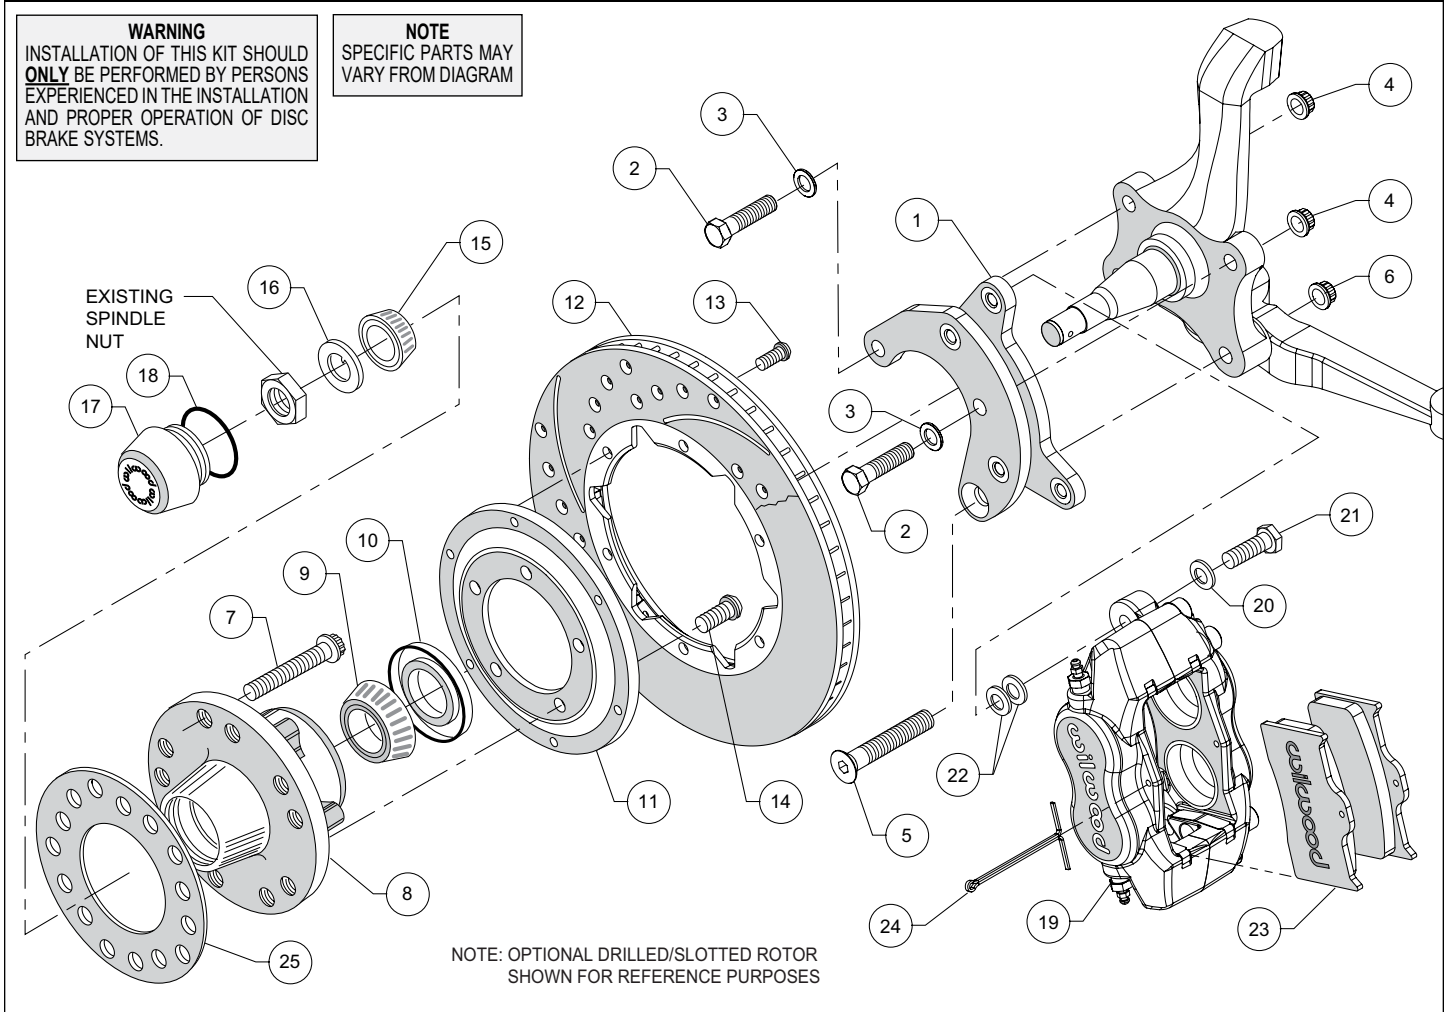
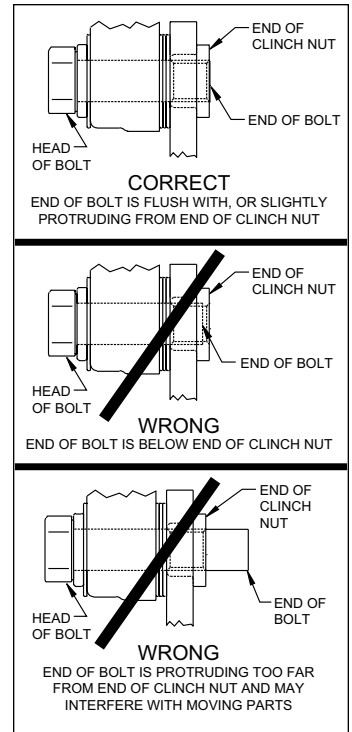

Figure 1. Typical Installation Configuration
Figure 4. Clinch Nut Engagement Diagram
- NOTE:** Numbers in parenthesis refer to the parts list on the preceding page and Figure 1.
- CAUTION:** All mounting bolts must fully engage clinch nuts. Be sure to check that all bolts are either flush or protruding through flanged side of clinch nut after shimming, Figure 4.
- Align bracket with the corresponding holes on the face of the spindle, attach using bolts (2/5), washers (3), and secure using nuts (4/6) as shown in Figure 1 and Photo 1. Temporarily tighten the mounting bolts. Ensure that the flanged heads of the clinch nuts in the bracket are facing outboard, Photo 1. **NOTE:** The bracket must fit squarely against the mounting points on the spindle. Inspect for interference from casting irregularities, machining ridges, burrs, etc. Torque lock nut (4) to 47 ft-lbs. and lock nut (6) to 65 ft-lbs.
- Install wheel studs (7) into the hub (8), Photo 2. Torque to 77 ft-lb. **NOTE:** There are two five lug patterns in the hub (5 x 4.50 and 5 x 4.75). Ensure the correct hub stud pattern is being used to fit the wheel application.
- Pack the large inner bearing cone (9) with high temperature disc brake bearing grease (available from your local auto parts store) and install into the backside of the hub (8), Photo 3.
- Install the grease seal (10) by pressing into the backside of the hub (8), flush with the end of the hub, Photo 3.
- Orient the rotor (12) and the rotor adapter (11) as shown in Figure 1 and Photo 4. Attach the rotor to the adapter using bolts (13). Using an alternating sequence, apply red Loctite® 271 to the threads, and torque to 25 ft-lb.
- Mount the adapter/rotor assembly (11/12) to the hub (8) using bolts (14), as shown in Figure 1 and Photo 5. Using an alternating sequence, apply red *Loctite*® 271 to the threads, and torque to 45 ft-lb.
- Pack the small outer bearing cone (15) with high temperature disc brake bearing grease and install into hub (8). Slide the hub/rotor assembly onto the spindle. Secure using spindle washer (16) and OEM spindle nut, Photo 6. Adjust bearings per OEM specifications. Install saved OEM nut lock (if any) and a new cotter pin (not supplied).
- Screw dust cap (17) into hub (8), Photo 7. Friction created by the o-ring (18) on the dust cap keeps it from unscrewing. **NOTE:** *The O.D. of the existing OEM spindle washer may be larger than the I.D. of the dust cap not allowing it to seat against the hub face. Therefore, use the spindle washer (16) supplied with the kit instead of the OEM washer.*
- NOTE:** *Please reference the caution statement at the beginning of the assembly instructions.* Mount the caliper (19) onto the caliper mounting bracket (1) using bolts (21) and washers (20), as shown in Figure 1. Initially place two .035" thick shims (22) on each bolt between the caliper and the bracket, Photo 8. Temporarily tighten the mounting bolts and view the rotor (12) through the top opening of the caliper. The rotor should be centered in the caliper, Photo 9. If not, adjust by adding or subtracting shims between the bracket and the caliper. Always use the same amount of shims on each of the two mounting bolts. **NOTE:** *The end of each bolt must be flush with or slightly protruding from the head of the clinch nut, as shown in Figure 4.* If necessary place spare shims between washer (20) and caliper mounting ear to achieve the proper clinch nut engagement. Once the caliper alignment and clinch nut engagement are correct, remove the bolts one at a time, apply red *Loctite*® 271 to bolt threads, and torque to 40 ft-lb.
- Install the disc brake pads (23) into the caliper, with the friction material facing the rotor (12), and secure in place using cotter pin (24), Photo 10.